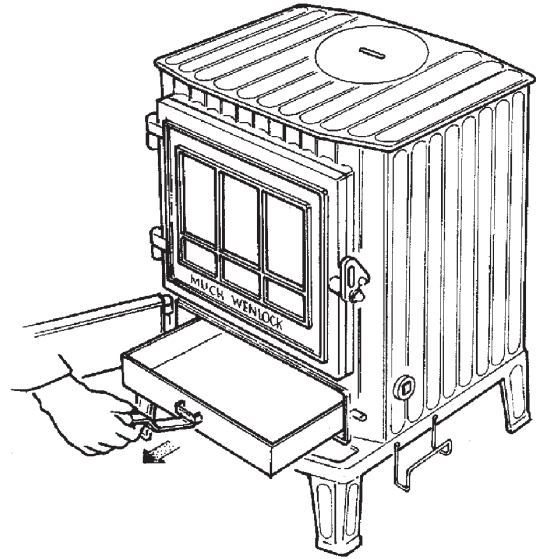

Fig. 4
- (c) Remove the ashpan with the operating tool. Fig. 4. Allow to cool before placing contents in a plastic bin or liner.